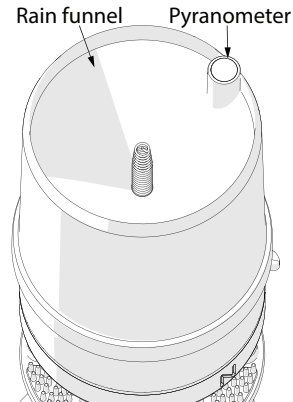

Figure 13 Rain funnel and pyranometer
- a. Rain funnel (Figure 13)
- b. Pyranometer (Figure 13)